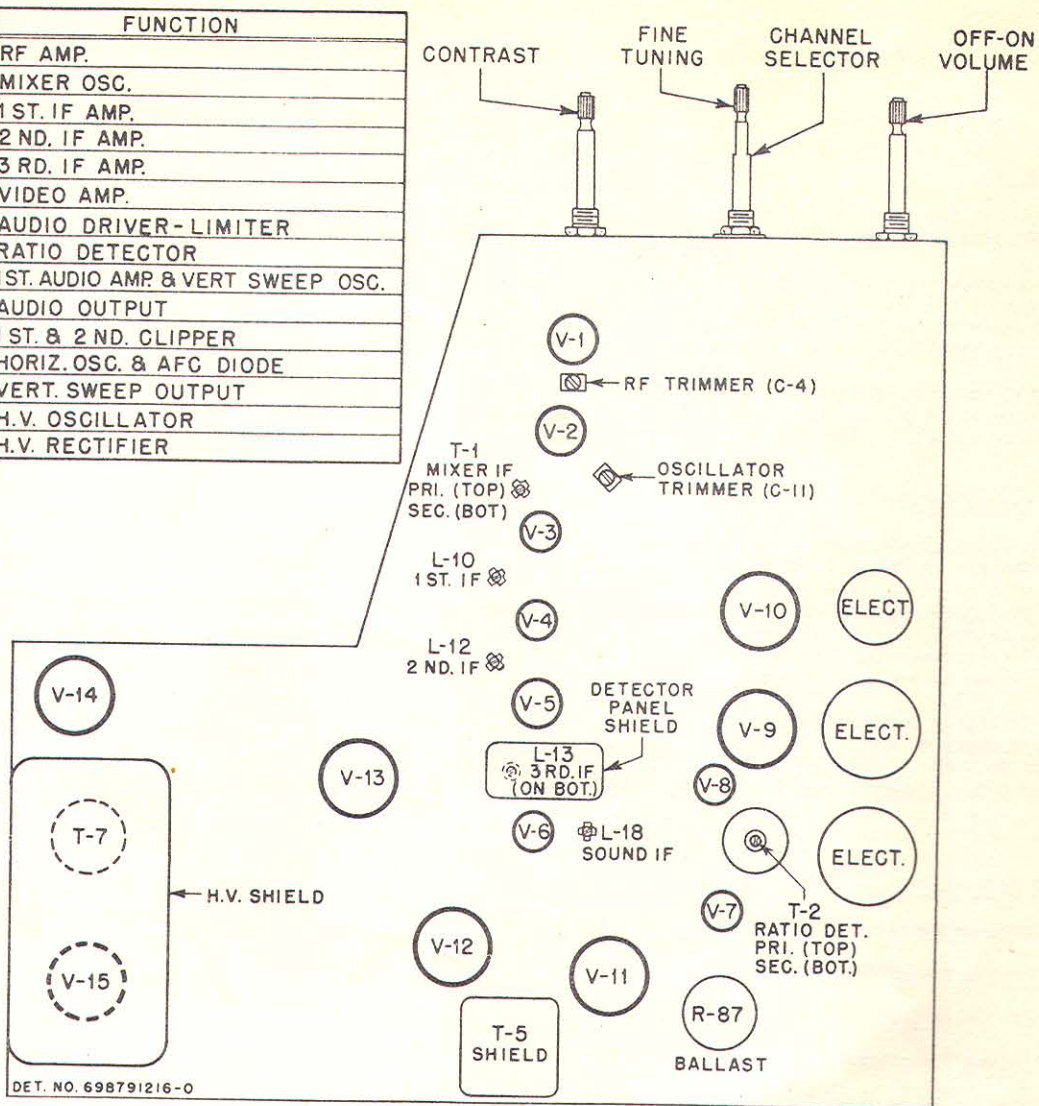

FIGURE 4. TUBE & ALIGNMENT ADJUSTMENTS LOCATIONS
Refer to Figure 4 for location of adjustments.
4. Turn the station selector switch to channel 10. Set the center frequency of the sweep generator to the center frequency of channel 10 (195 mc). Adjust the RF trimmer (Figure 4) to place a 195 mc marker at maximum amplitude of curve. This is the only RF adjustment and the RF stage of all high channels (7-13) should be properly tuned. Conversely, if channel 10 is not tuned properly, all high channels will be misaligned.